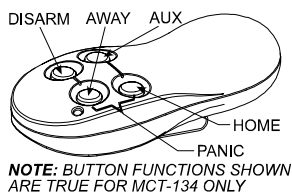

Figure 13. MCT-134 / 104
C. MCT-134 / 104* (Fig. 13): (N.A. in North America) 4-button hand-held units. MCT-134 (CodeSecure) can replace the MCT-234 keyfob. MCT-104 (PowerCode) can perform emergency and non-alarm functions. Both units look alike.